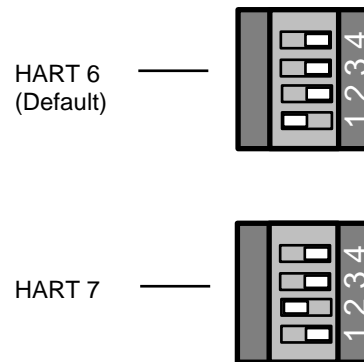

Figure 29: HART DIP Switch
- 3 With a clean, non-conductive instrument, change the position of DIP switch according to Figure 29. After changing the DIP switch, the positioner will immediately recognize the new HART communication protocol.